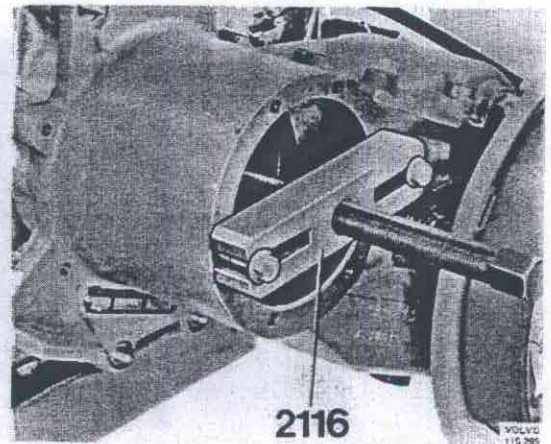

Fig. 43-48. Attaching puller
4. Remove the rear cover on the auxiliary gearbox and the nuts securing the box. Fit puller 2116, Fig. 43-48, and pull the auxiliary gearbox from the gearbox.